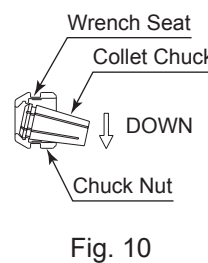
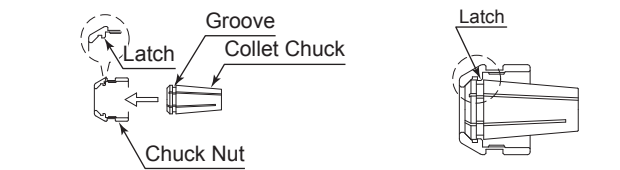

Fig. 10
Fig. 11
- ② The collet chuck and chuck nut are secured by a groove in the collet chuck and a flange in the chuck nut. To remove the collet chuck hold the chuck nut in one hand and push diagonally down on the collet chuck. The collet chuck should be released (Fig. 10).
- ③ To install the collet chuck, hold the collet chuck at a slight angle, and insert it into the chuck nut (Fig. 11). Press the collet chuck in the chuck nut by positioning the collet chuck in the chuck nut and pressing down on flat surface (Fig. 10). Be sure to fully engage the latch inside the chuck nut into the groove on the collet chucks outer circumference area (Fig. 12).